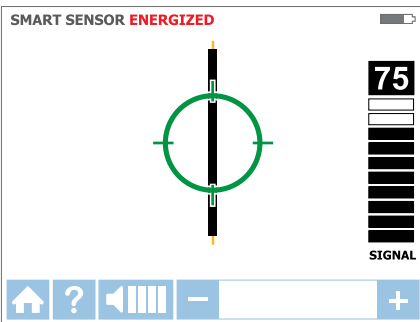

Figure 3.1e
5. Green target symbol indicates that the Receiver is directly over the wire. If Receiver will not lock on the wire, decrease sensitivity using the "-" on the keypad or set the transmitter to transmit at LOW level (Precision). (see Figure 3.1e)